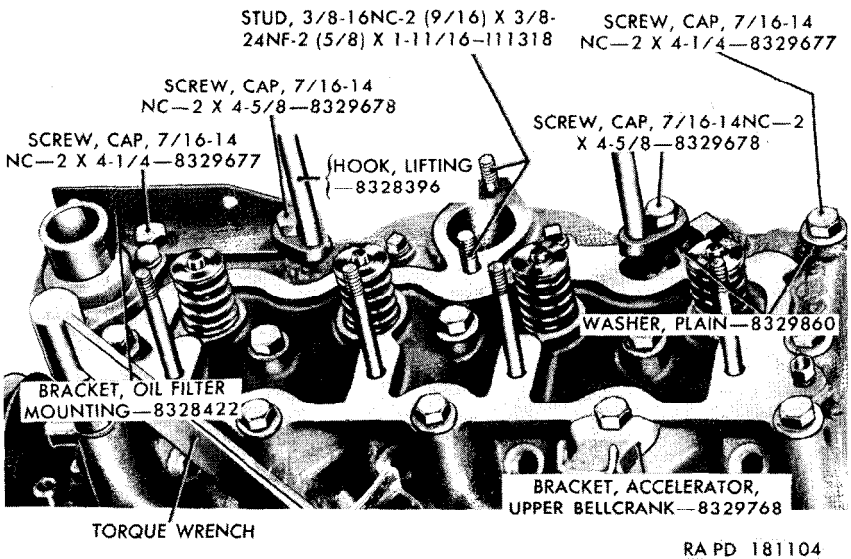

Figure 93. Installing cylinder head.
b. Using the same size cap screws, but no washers, install the upper bellcrank accelerator bracket (fig. 93) and the oil filter mounting bracket, installing cap screw in the front mounting hole only of the oil filter bracket.
c. Center a plain washer (fig. 93) on the cylinder head mounting hole, just to the rear of the carburetor mounting flange, and set the mounting feet of the engine lifting hook on the washer and on the rear end of the oil filter mounting bracket. Secure the hook in place using two $\frac{7}{16}$ -14NC-2 x $4\frac{5}{8}$ cap screws.
f. Install the two $\frac{3}{8}$ -16NC-2 ($\frac{9}{16}$) x $\frac{3}{8}$ -24NF-2 ($\frac{5}{8}$) x $1\frac{11}{16}$ studs (fig. 93) in the tapped openings on either side of the carburetor mounting boss.